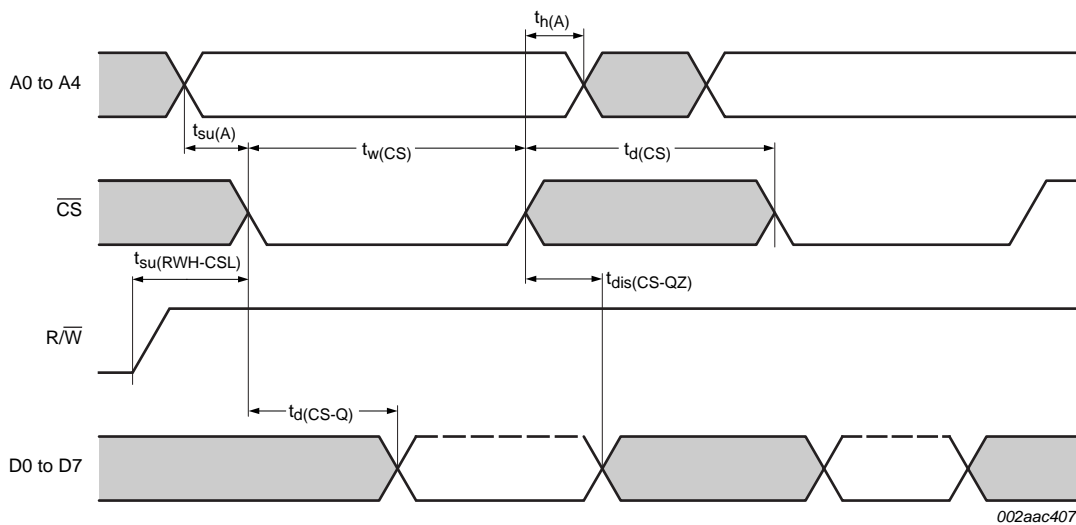

Fig 14. General read timing in 68 mode
(2) CS timing during a read cycle. See Figure 14.